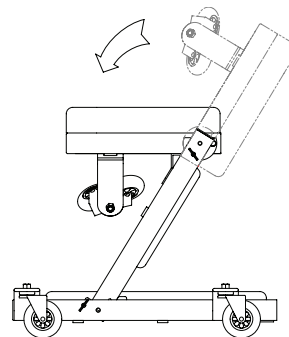

Figure 2 - High-seat configuration
2. Disengage Lock Pin for Middle Frame and rotate further forward. Engage locking pin. Disengage Lock Pin for Head Frame section and rotate backwards as shown in Fig. 2. Adjust hinged caster brackets as required. This is the high seat configuration.